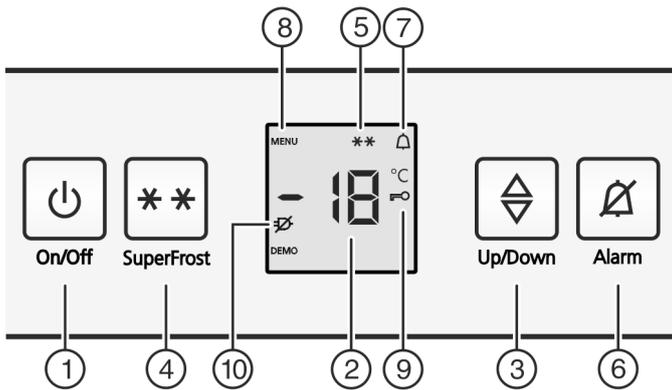

Fig. 2
- The SuperFrost symbol Fig. 2 (5) flashes together with the temperature display.*
- ▶ Press the On/Off button Fig. 2 (1).
- ▶ Activate setting mode: press the SuperFrost button Fig. 2 (4) for approx. 5 seconds.
- ▷ The Menu symbol Fig. 2 (8) is shown on the display.
- ▶ Briefly confirm with the SuperFrost button, Fig. 2 (4).
- ▷ The child lock symbol Fig. 2 (9), lights up on the display.
- ▶ Briefly press the On/Off button Fig. 2 (1).
- ▷ The child lock symbol Fig. 2 (9) goes out.
- ▶ Press alarm button *Fig. 2 (6)*.
The temperature display and the alarm symbol *Fig. 2 (7)* flash at the same time.
The audible alarm is automatically silenced, the alarm symbol *Fig. 2 (7)* goes out and the temperature display stops flashing when the temperature is sufficiently cold again.